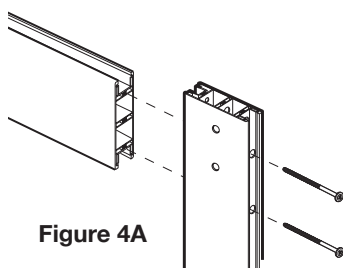
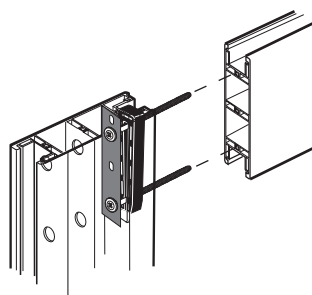

Figure 4A
Figure 4C
Reinforcement Plate (Part B) and Reinforcement Clip (Part D) are pre-installed into door stile (Part A). Lay one of the Stiles (A) onto work surface. Make sure the side with the large holes in the channel are facing outward and the channel with the pre-installed reinforcement clips is facing inward. Please note: the pre-drilled holes in the surface of the stile will be the Top of your door. (see door overview page for reference). Insert a 4" screw (Part Z) to each of the two holes at outer groove of upper stile side and make sure the two screws are fully inserted. **See Figure 4A and 4B.** Make sure that the big groove at one side of Top Rail (Part C) is facing upward and the small groove at another side is facing downward. Place horizontally Top Rail (Part C) against the upper end of door stile and simultaneously let both upper and lower holes at the top rail end receive the two screw tips come from the door stile side. **See Figure 4C.** Once screws and holes are placed in position, drive the screws into the holes until door stile and top rail are flush and secure.